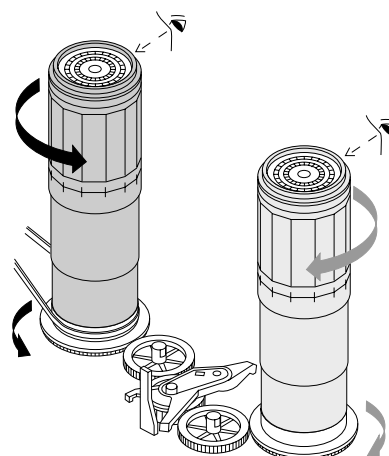

Fig. 9.2
9.2 Checking the Reel Winding Torques (Fig. 9.2)